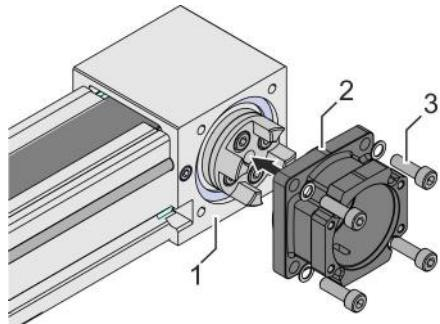

Fig. 19: Assembling the coupling housing
Place the coupling housing (Fig. 19/2) on the pulley box (Fig. 19/1).
- 7.** Tighten 4 screws (Fig. 19/3) alternating diagonally: